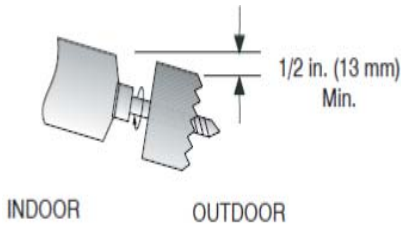

Fig. 15 – Drill holes
- b. Drill the pipe hole. The outside pipe hole is 1/2 in. (13 mm) lower than the inside pipe hole, therefore it slants slightly downward (see Fig. 15).